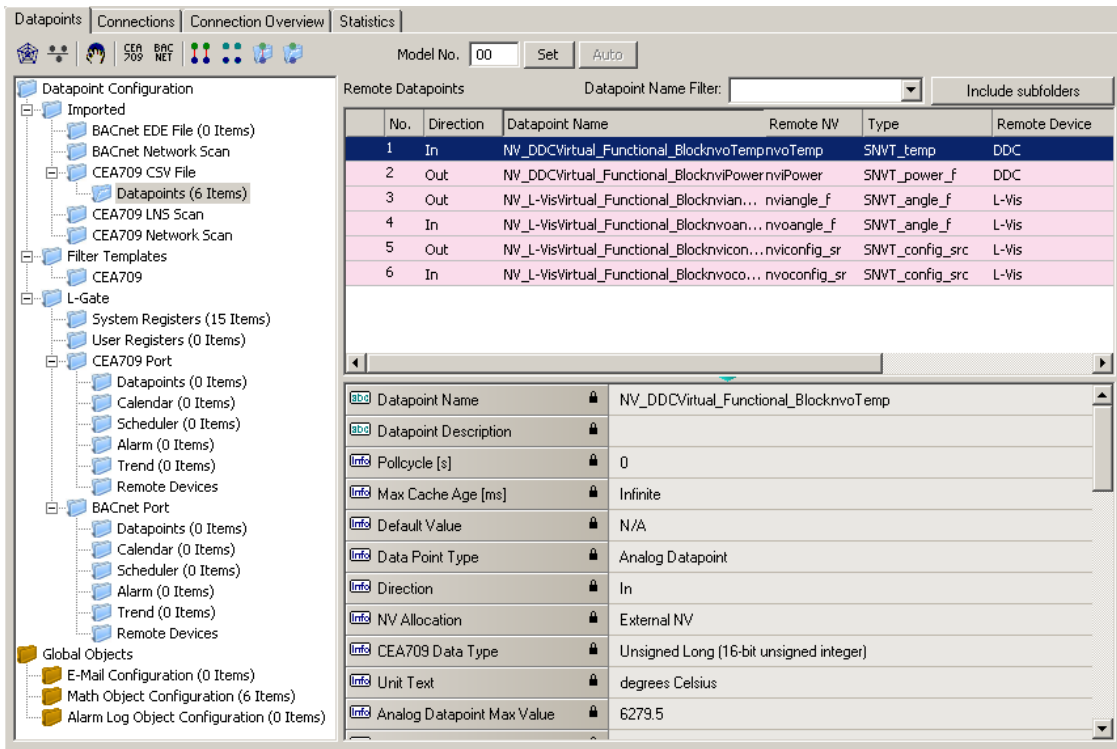

Figure 75: Imported NVs
- Now the CSV File folder is populated with the imported NVs as shown in Figure 75.